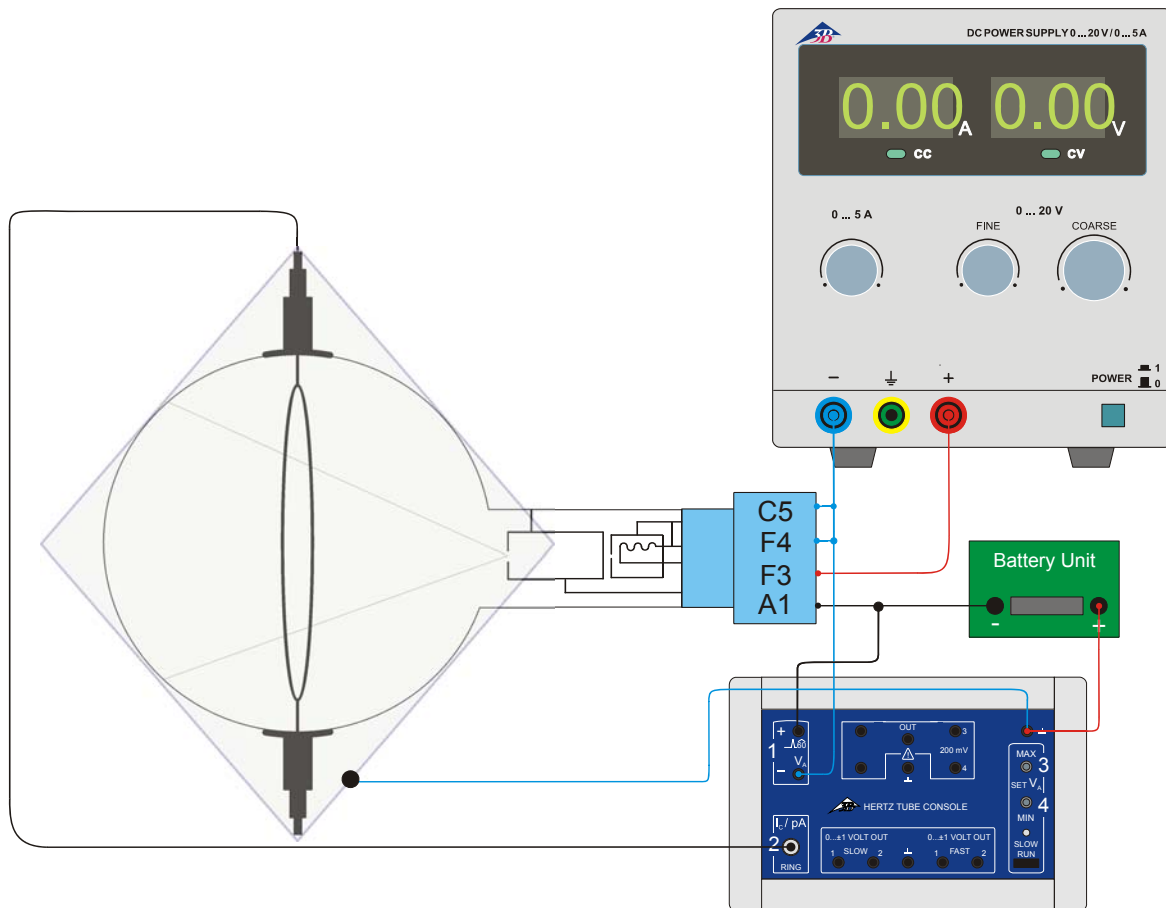

Fig. 1 Experiment set-up with the control unit for critical potential tubes
- Connect the sockets F3 of the tube holder to the positive terminal of the DC power supply and F4 to the negative terminal. (see Fig. 1)